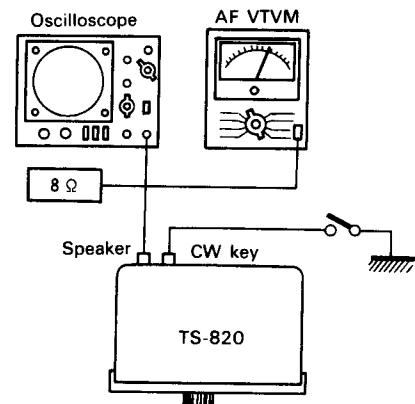

Fig. 39 Adjustment of side tone
- 1) In Fig. 39, adjust VR3 in AF • AVR unit (X49-1080-00) until AF output becomes 50 mW (0.63 V/8 Ω) with the key down (refer to Fig. 28).